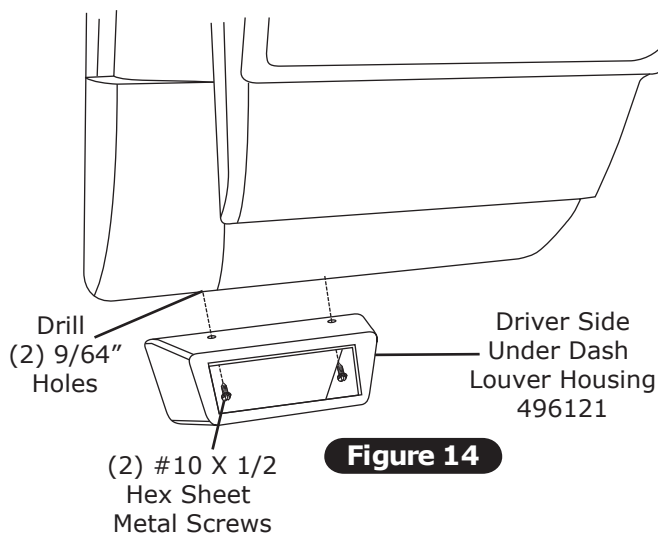

Figure 14
1. Place driver side louver housing under dash. Mark and drill (2) 9/64" holes as shown in Figure 14, below.
2. Secure louver housing to dash using (2) #10 x 1/2" hex sheet metal screws as shown in Figure 14, below.